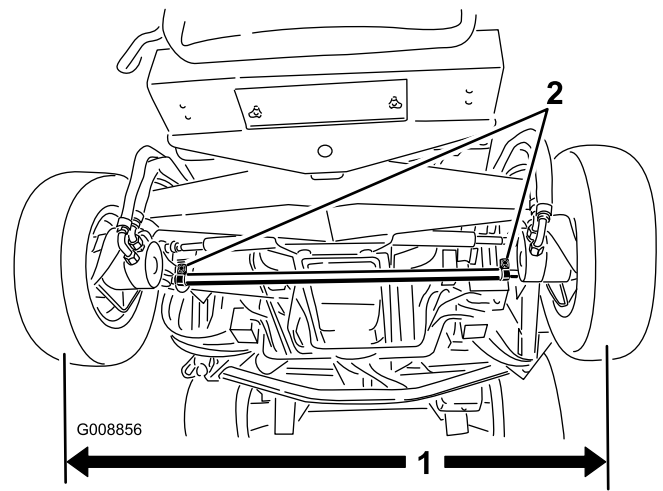

Figure 76
2. To adjust, loosen the clamps at both ends of the tie rods (Figure 76).
1. Measure the center-to-center distance (at axle height) at the front and rear of the steering tires (Figure 76). The front measurement must be no greater than 0.00"-0.12' less than the rear measurement.